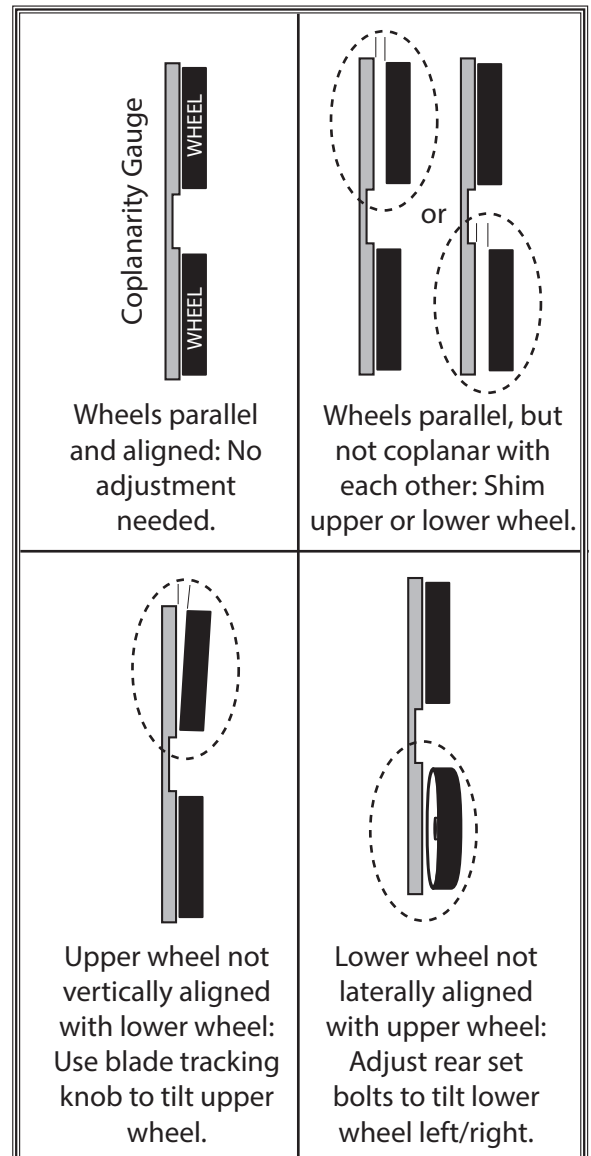

Figure 104. Wheel alignment illustration with solutions to misalignment problems.
- Check wheel alignment and adjust tracking knob to bring both wheels into alignment as much as possible. If wheels cannot be adjusted coplanar, use **Figure 104** to determine how to proceed with alignment adjustments.